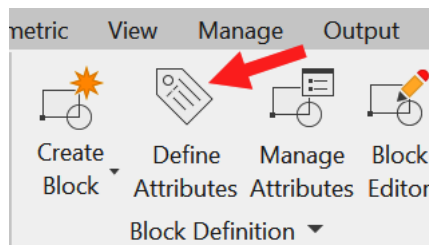

Figure 10.5: The Block Definition panel with Define Attributes indicated
5. Click on the **Insert** tab on the ribbon. Click on the **Define Attributes** icon in the **Block Definition** panel, as shown in *Figure 10.5*.